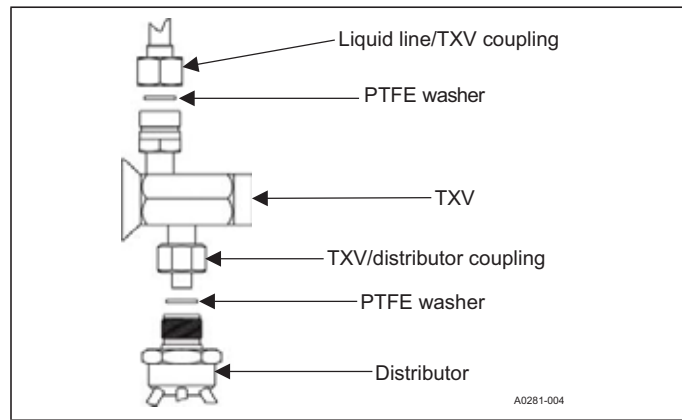

Figure 11: TXV installation
4. Install the thermal expansion valve into the distributor assembly with the supplied fittings. Ensure the PTFE washer is seated in the distributor. Hand tighten and turn an additional 1/4 turn to seal. **Do not over-tighten fittings.** See **Figure 11**.